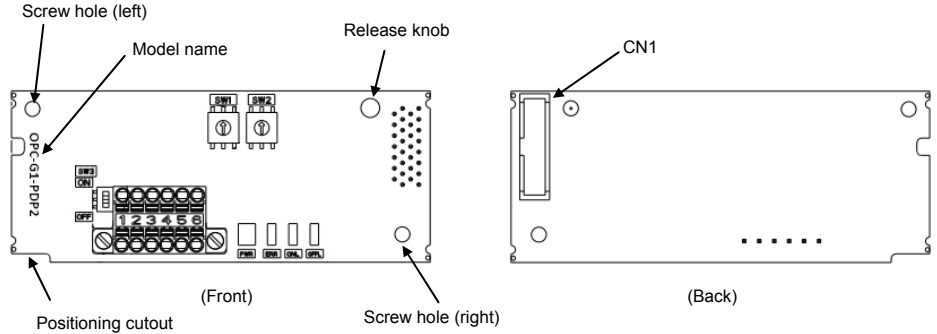

Figure 1.1 Names of Parts on PROFIBUS-DP Communications Card (OPC-G1-PDP2)
- (1) A communications card, two screws (M3 × 8), and the PROFIBUS-DP Communications Card Instruction Manual (this document) are contained in the package.
- (2) The communications card is not damaged during transportation--no defective parts, dents or warps.
- (3) The model name "OPC-G1-PDP2" is printed on the communications card. (See Figure 1.1.)